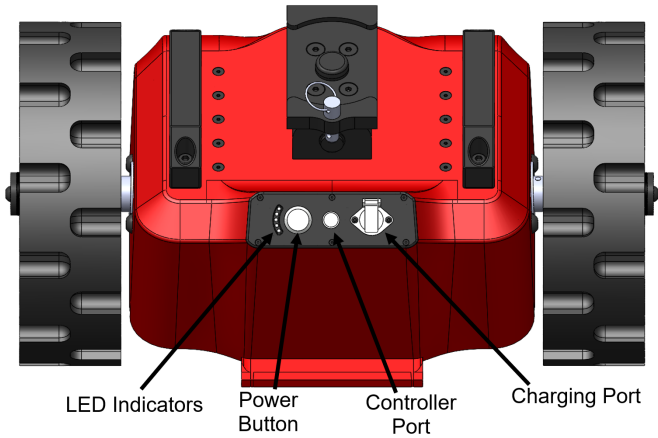

Figure 1 — Top view: Front panel buttons and ports
2. Turn on the Safe-T-Mover by pressing the power button (see Figure 1).